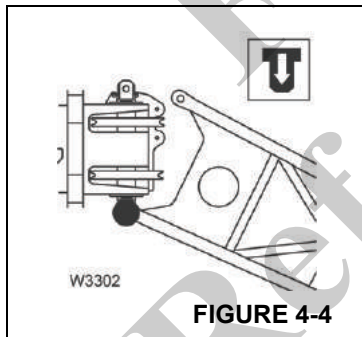

FIGURE 4-4
4. Lift the bi-fold extension in front of the main boom with the auxiliary crane and lock the 33 ft (10 m) section to the right of the main boom head Figure 4-4.